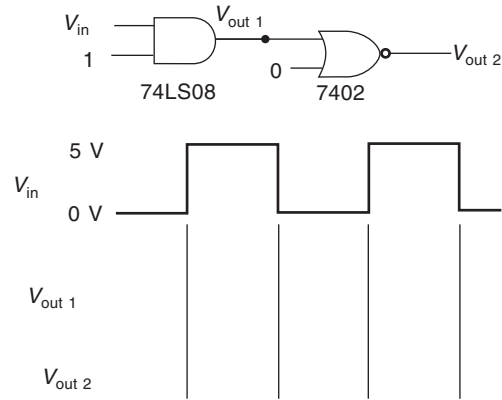

Fig. 9.7
9.9 The propagation delay times for a 74LS08 AND gate (Fig. 9.7) are $t_{PLH} = 15$ ns, $t_{PHL} = 20$ ns and